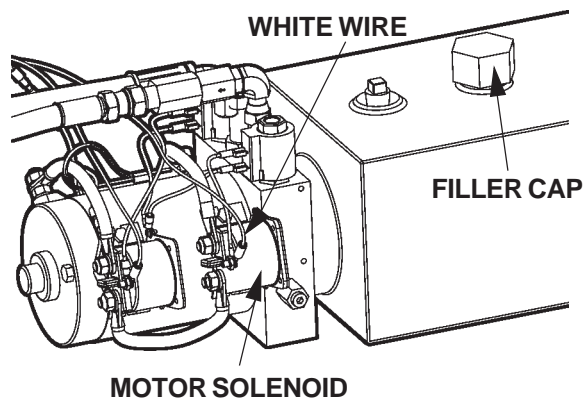

FIG. 1B
3. Disconnect the White Wire (**FIG. 1B**) from Motor Solenoid. Lower the Platform while draining the remaining hydraulic fluid from system. Re-install Drain Plug. Reconnect the White Wire to Motor Solenoid.
4. Remove Filler Cap and refill reservoir (**FIG. 1B**) to 2" from top. Use correct grade of hydraulic fluid for your location.
6. Re-install Filler Cap (**FIG. 1B**).